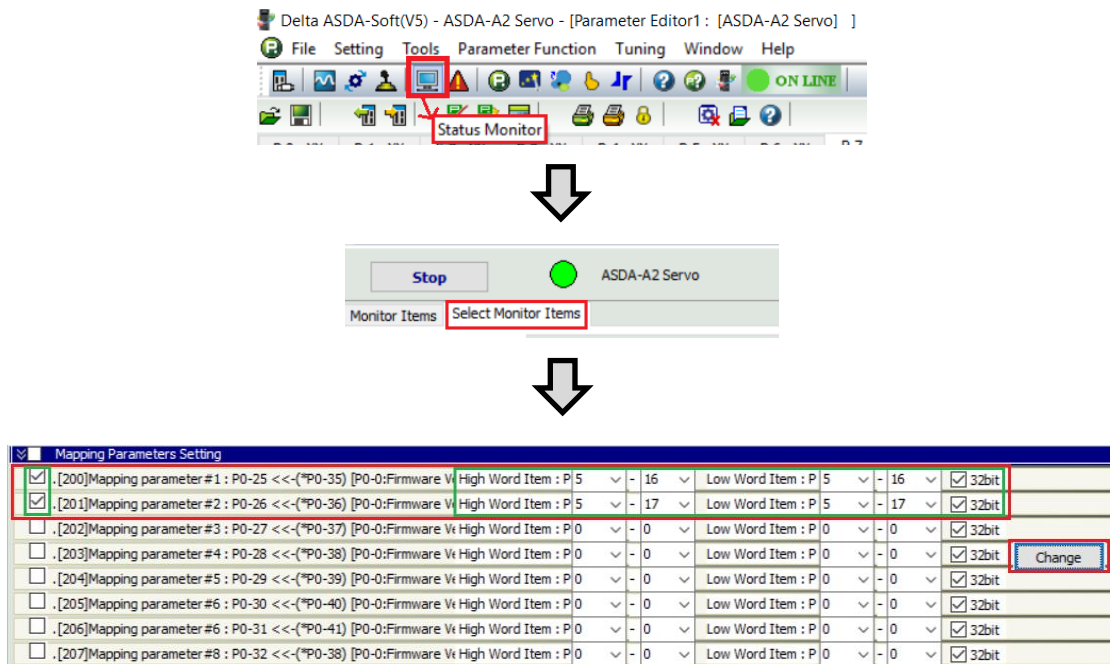

Figure 2.4.1 Mapping parameters configuration
2. As shown in Figure 2.4.1, open ASDA-Soft and click the **Status Monitor** icon → Click on the **Select Monitor Items** tab → Set **Mapping Parameters Setting** as highlighted to monitor the